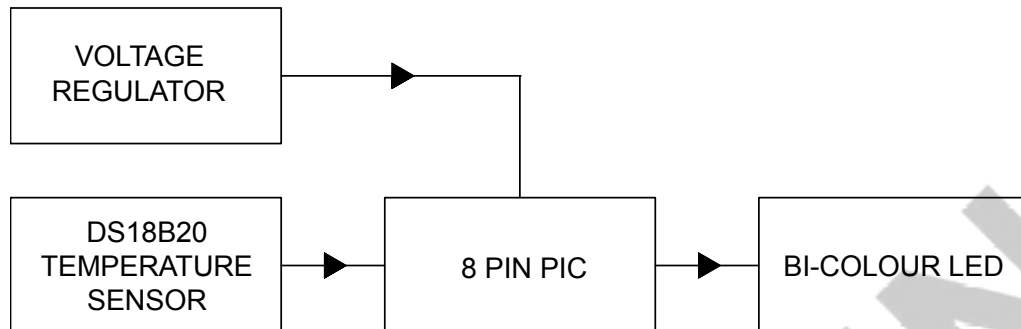

Fig. 1
- 1 A student is designing a PIC based device to monitor temperature in a greenhouse. A diagram of the system is shown in Fig. 1.
- (a) (i) One of the input boxes in Fig. 1 is a voltage regulator. State the purpose of a voltage regulator in a PIC circuit.